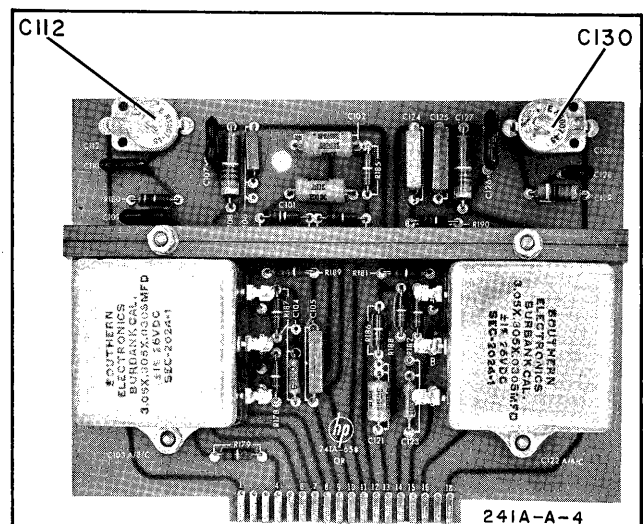

Figure 5-7. Range Capacitor Board Assembly
- c. Adjust trimmer capacitors C112 and C130 (see Figure 5-7) for a frequency indication of 100.2 kc with an error voltage indication of 115 millivolts.